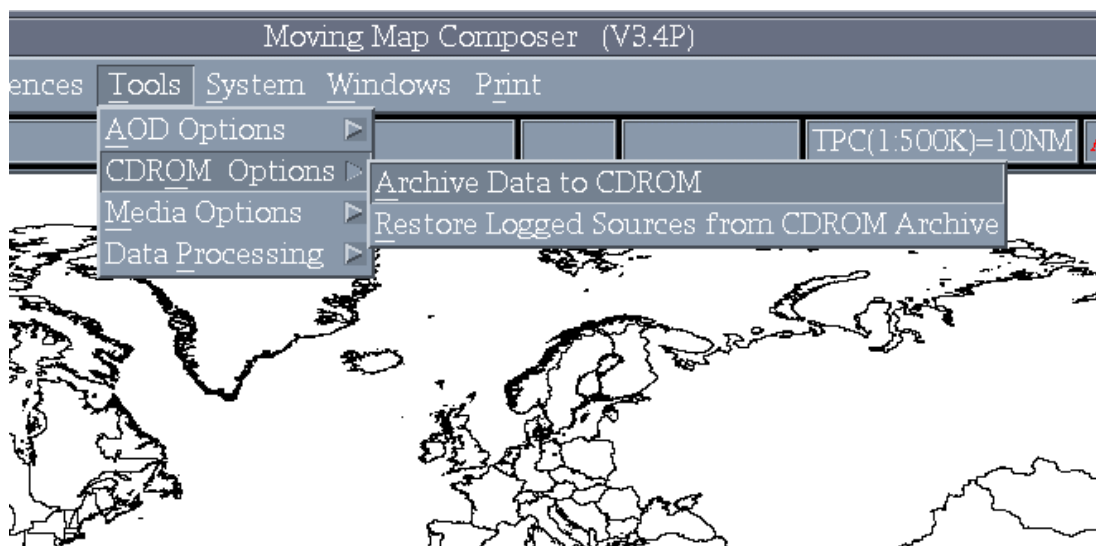

Fig. 8 – CDROM Options Menu
- a. On the main menu, click on *Tools*, *CDROM Options*, and *Archive Data to CDROM* (Fig. 8).
- i. On the main menu, click on *Tools*, *CDROM Options*, and *Archive Data to CDROM* (Fig. 8).